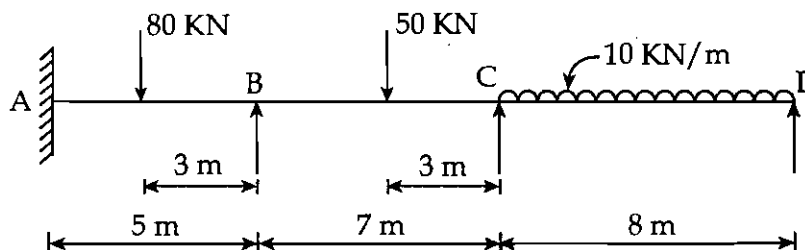

Figure 4
- (d) Draw the shear force and bending moment diagrams for the continuous beam shown in Figure 4. Using theorem of three moments. 10